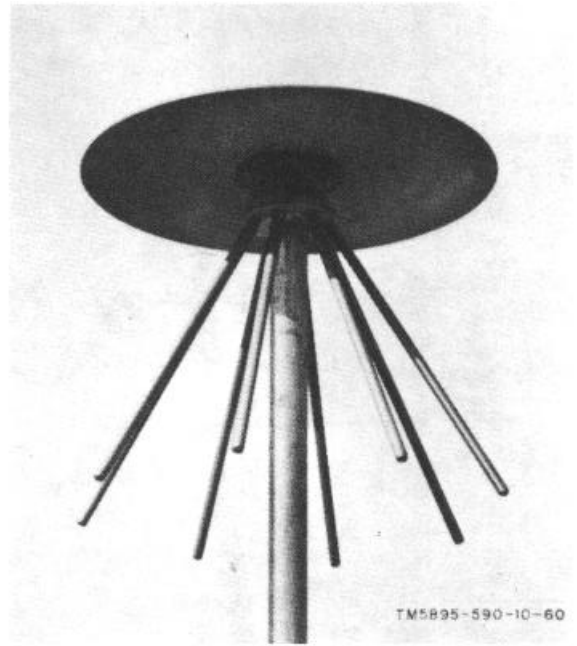

Figure 1-32. Antenna AS-2222/FSQ-75(V).
b. *Description of Antenna AS-2222/FSQ-75(V)* (fig. 1-32). The uhf antenna has eight element rods extending from a central hub and is used for general ground-to-air communication. The antenna is of the